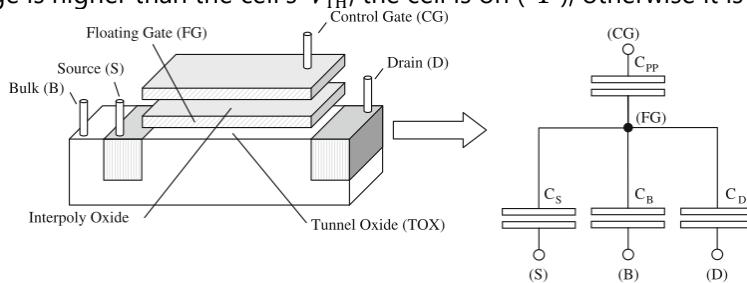

Figure 8.26 Schematic representation of a floating gate memory cell (*left*) and the corresponding capacitive model (*right*)
NAND Flash cell is based on the **Floating Gate** (FG) technology, whose cross section is shown in Figure 8.26. A MOS transistor is built with two overlapping gates rather than a single one: the first one is completely surrounded by oxide, while the second one is contacted to form the gate terminal. The isolated gate constitutes an excellent trap for electrons, which guarantees charge retention for years. **The operations performed to inject and remove electrons from the isolated gate are called program and erase, respectively.** These operations modify the threshold voltage V_{TH} of the memory cell, which is **a special type of MOS transistor**. Applying a fixed voltage to cell's terminals, it is then possible to discriminate two storage levels: when the gate voltage is higher than the cell's V_{TH} , the cell is on ("1"), otherwise it is off ("0").